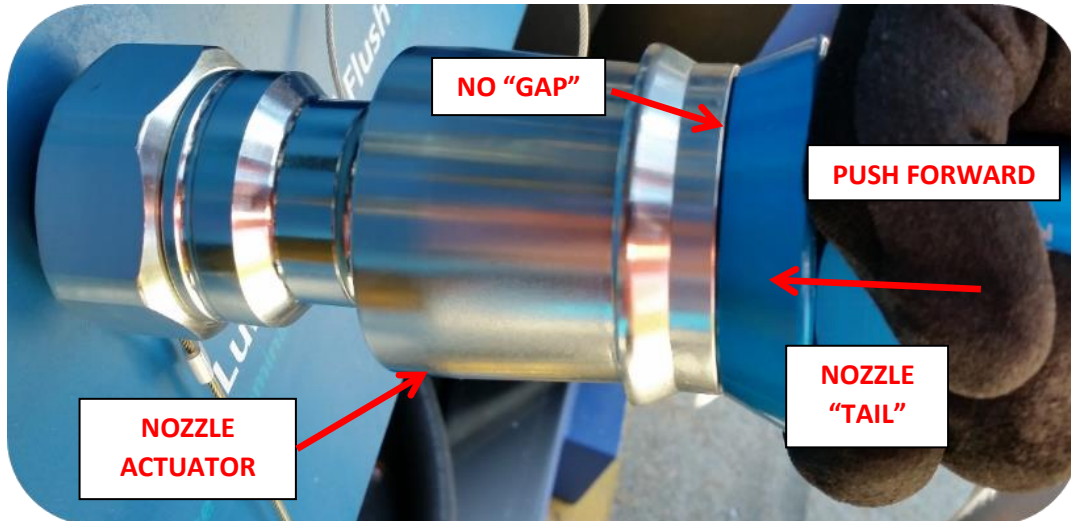

Figure 6 - Connecting the Couplers - "Push to Connect"
7. Whilst supporting the weight of the Nozzle etc. concentrically **align** the GTXN Nozzle with the GTXR Receiver, "feeling" the front end of the Receiver fit within the shallow recess on the mating face of the Nozzle – refer Figure 6.